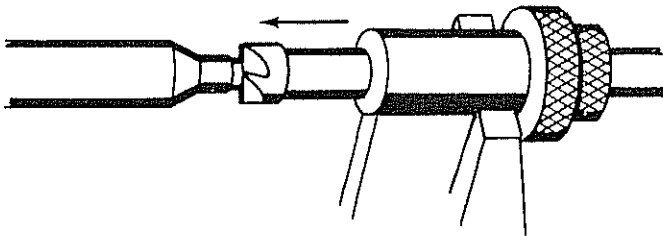

FIGURE 5
- 3 With your right hand slide Cutter Assembly to the left, until Pilot enters the case mouth up to the Cutter Blade. (Figure 5). This will hold case centered.